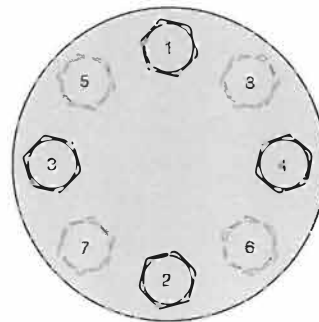

FIGURE 10 - BOLTING SEQUENCE FOR 4 AND 8 BOLT FLANGES
15. Use gaskets to make all flanged connections. Gasketing material must be suitable for use with the pressure, temperatures and fluids in the system. Flexible graphite gaskets are suited for most applications. Recommended gasket thickness is 1/10 - 1/8 inch. Ensure that all bolts are tightened evenly and to the torque recommended values provided by the gasket manufacturer. Refer to Figure 10 and Tables 6-9 for guidelines.